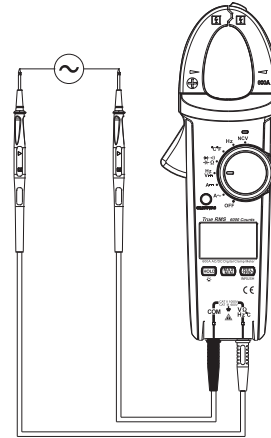

Figure 4
2. AC Voltage Measurement (see Figure 4)